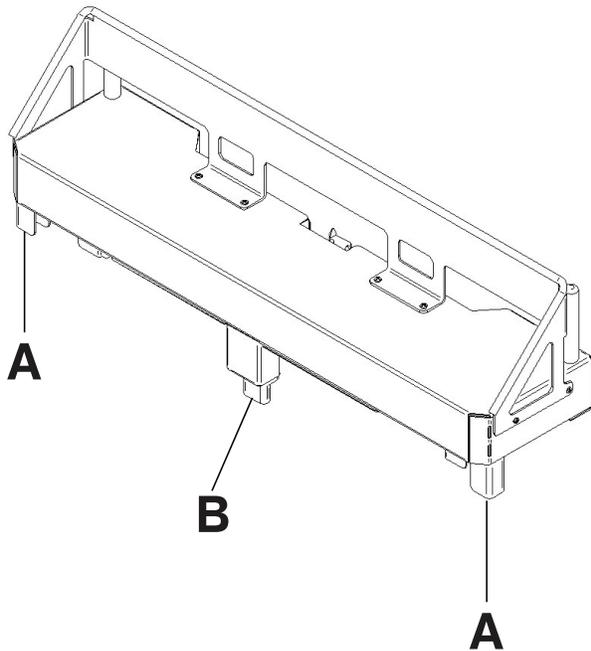

Figure 79: Attaching the optional bed extender
3. Insert the optional bed extender legs (A) and the footboard connector (B) onto the foot end of the product (Figure 79 on page 90).